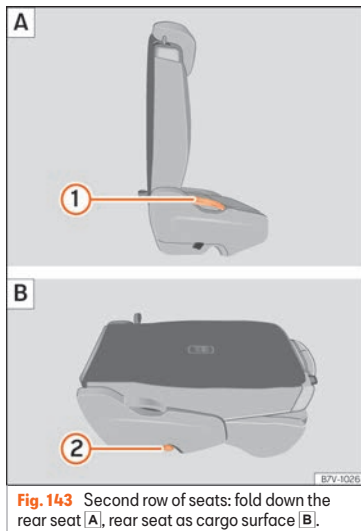

**Fig. 143** Second row of seats: fold down the rear seat **A**, rear seat as cargo surface **B**.
- Remove objects from the footwell in front of and behind the rear seat » » » ❶.
- Pull lever » » » **Fig. 143** ❶ back and fold the seat backrest forwards. The complete rear seat folds forward » » » ⚠.
- Fold the seat backrest forwards until it locks into the load surface position » » » **Fig. 143** ❷.
- Pull lever » » » **Fig. 143** ❶ upwards and place the seat backrests in vertical position. The entire seat folds backwards.